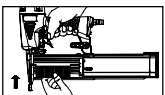

Fig.5
7. Load nails into your tool following the instructions in this manual. (See Fig. 5)